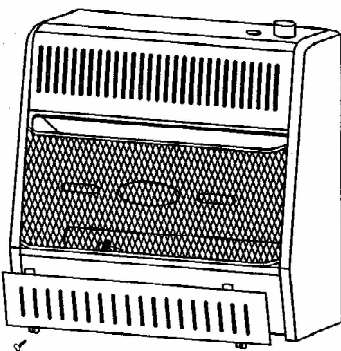

Figure 7 - Removing Lower Front Panel Of Heater
2. Pull bottom of lower front panel forward, then down (see Figure 7).